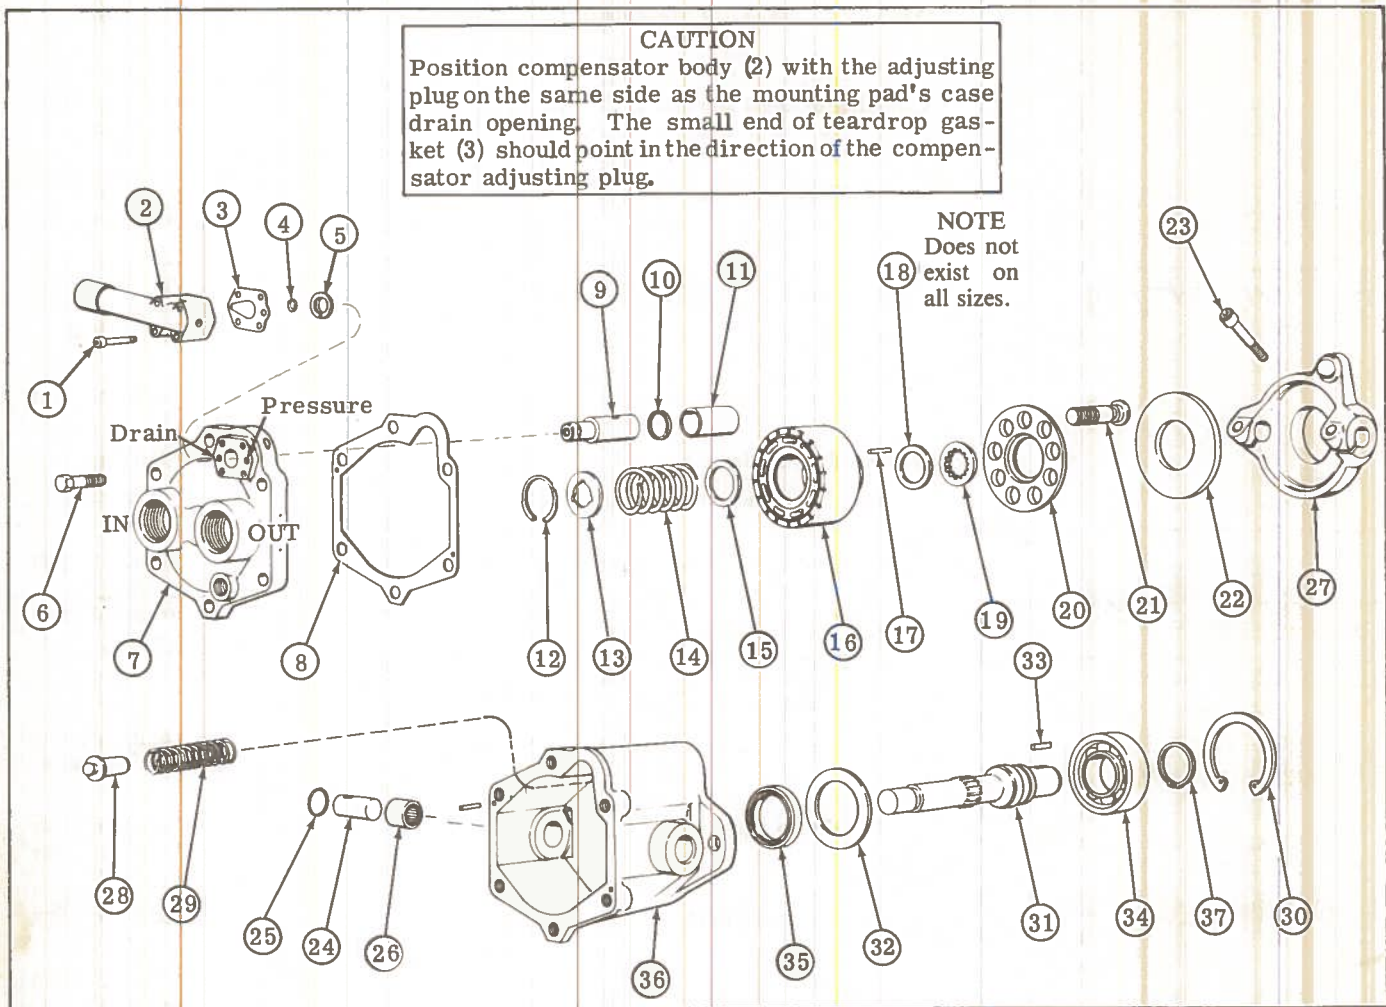

Figure 2. Exploded Parts Breakdown
7. The rotating group consists of retaining ring (12), lift limiter (13), spring (14), thrust washer (15), cylinder block (16), pins (17), backup washer (18), spherical washer (19), shoe plate (20) and piston/shoe subassembly (21). Turn the rotating group slightly to free it from the swash plate (22). Tilt housing
(36) and remove the rotating group. During removal, use care to prevent separation of the rotating group. Disassemble the rotating group as follows: (Refer to Figures 2 and 3 during disassembly.)